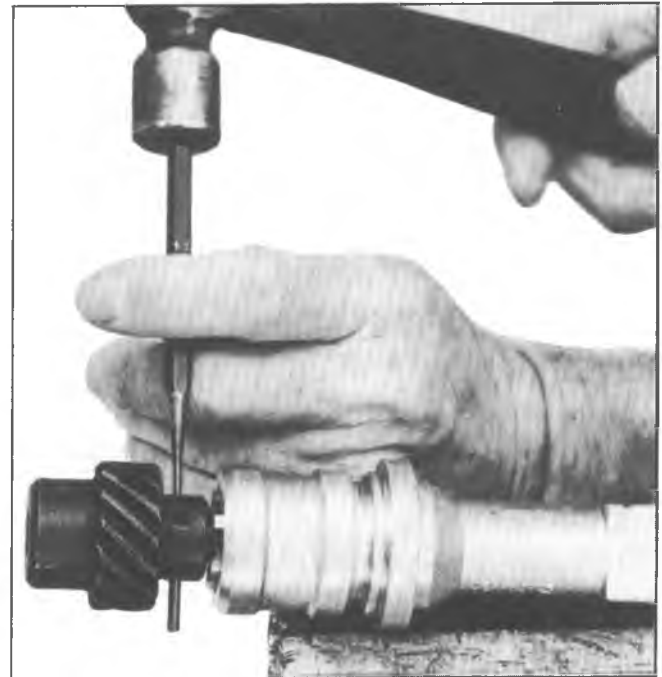

Fig. 7i-Roll Pin Removal
Replacement (Figs. 7i - 9i)
2. Support distributor gear on a block of wood or other suitable object (fig. 7i) and drive roll pin from drive gear. Make sure distributor is supported in such a way that no damage will occur to distributor shaft while removing roll pin.